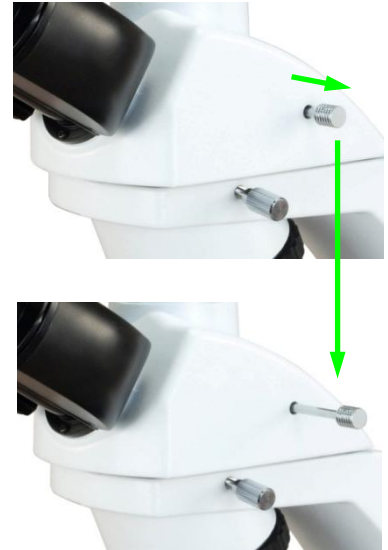

Fig.9
- 3) Pull the swapping lever out (**Fig. 9**)